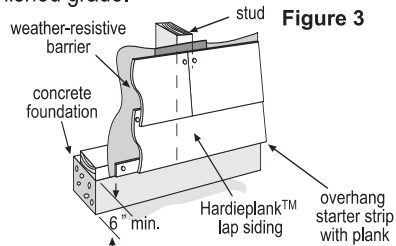

Figure 3
- Install James Hardie® products with a minimum 6" clearance to the finished grade on the exterior of the building or in accordance with local building codes if greater than 6" is required (fig. 3).